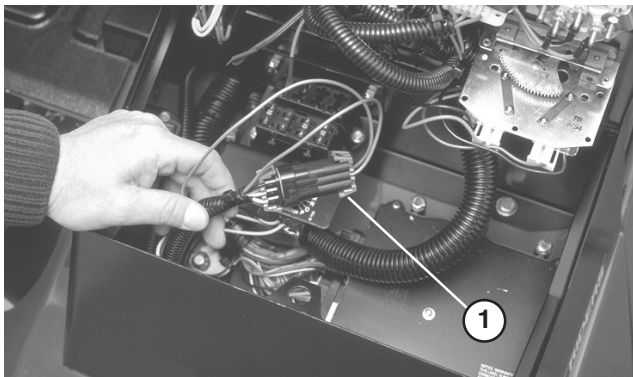

Figure 36
2. Open control panel cover. Locate wire harness and connectors near controller (Fig. 36). Carefully unplug loop back connector from harness connector.